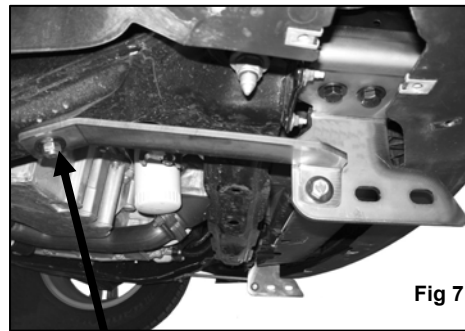

Fig 7
11. Attach the rear mounting location on the Support Bracket to previously inserted Bolt Plate. Secure Support Bracket using (1) 10mm Flat Washer and (1) 10mm Nylock Nut (Figure 7). Do not tighten at this time.